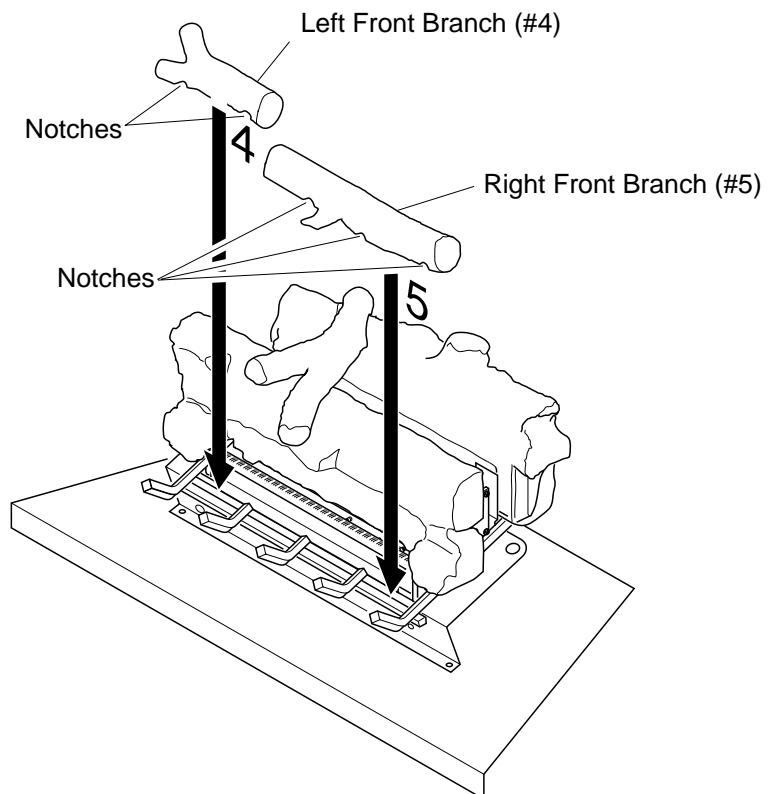

Figure 25 - Installing Left Front Branch and Right Front Branch
- Place left front branch (#4) and right front branch (#5) into place (see Figure 25). Make sure notches on bottom rest on grates.